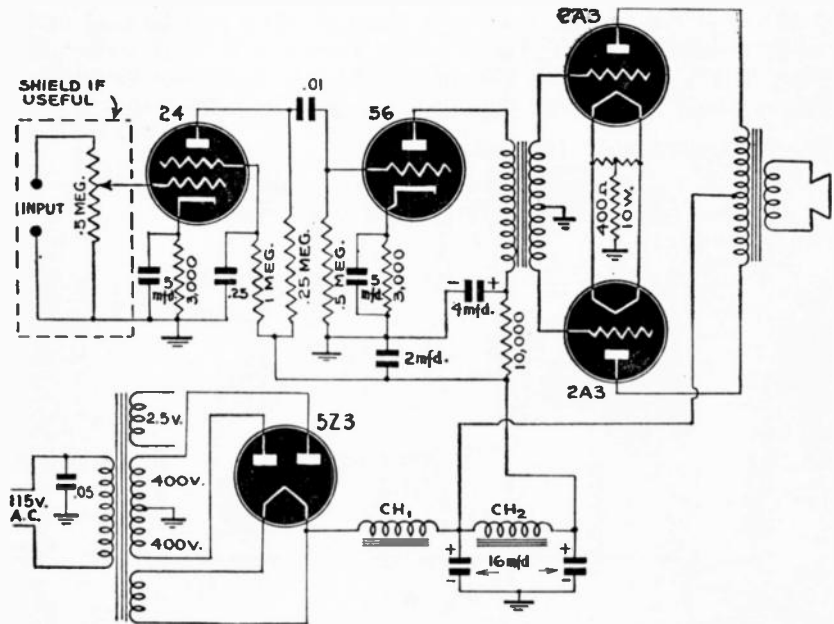

Fig. 322
A. The amplifier shown in Fig. 322 is for 2A3's but may readily be adapted to 2A5's or 47's by reducing the cathode resistor to about 300 ohms and adding the screen leads. Needless to say, equivalent 6-volt tubes may be used in this circuit. The 56 may also be replaced by a 27, with little difference in results. The center tap resistor in the 2A3 filaments is about 30 ohms.